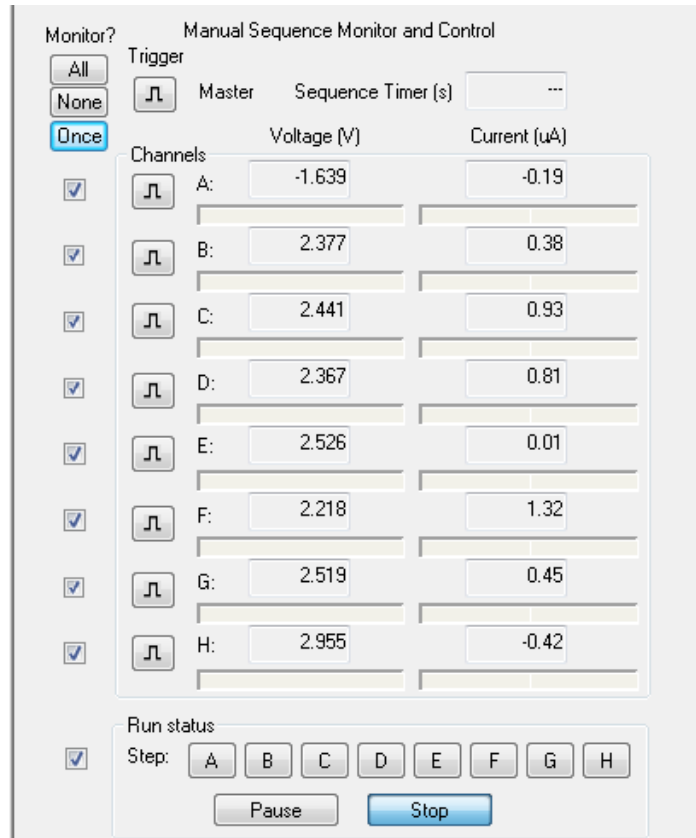

Figure 8. Manual Sequence Monitor and Control window.
4. Press **A** at the bottom of the Sequencer Control Panel to run Step A, etc. If you selected timed events or triggers, then the automated sequence you created will take over. If not, and you selected “manual” to switch between steps in the Sequence Wizard, click the  **Sequencer** icon in the left pane. The **Manual Sequence Monitor and Control** (*Figure 8*) will open in the right pane.